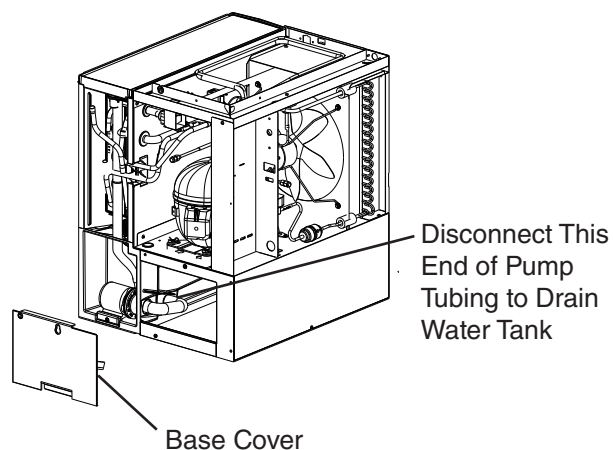

Fig. 11
- 3) Drain the water tank. Remove the base cover, then disconnect the water tank end of the pump tubing to drain the water tank. See Fig. 11. After the water tank has drained, reconnect the pump tubing.